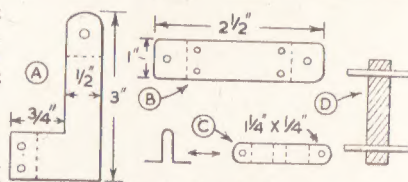

Fig. 2—Detail of parts
The detail (A) in Fig. 2 shows how the spring is cut. A piece from a tin-can is used and right-angle bends are made at the dotted lines. The large hole should provide an easy fit for the end of the bolt.